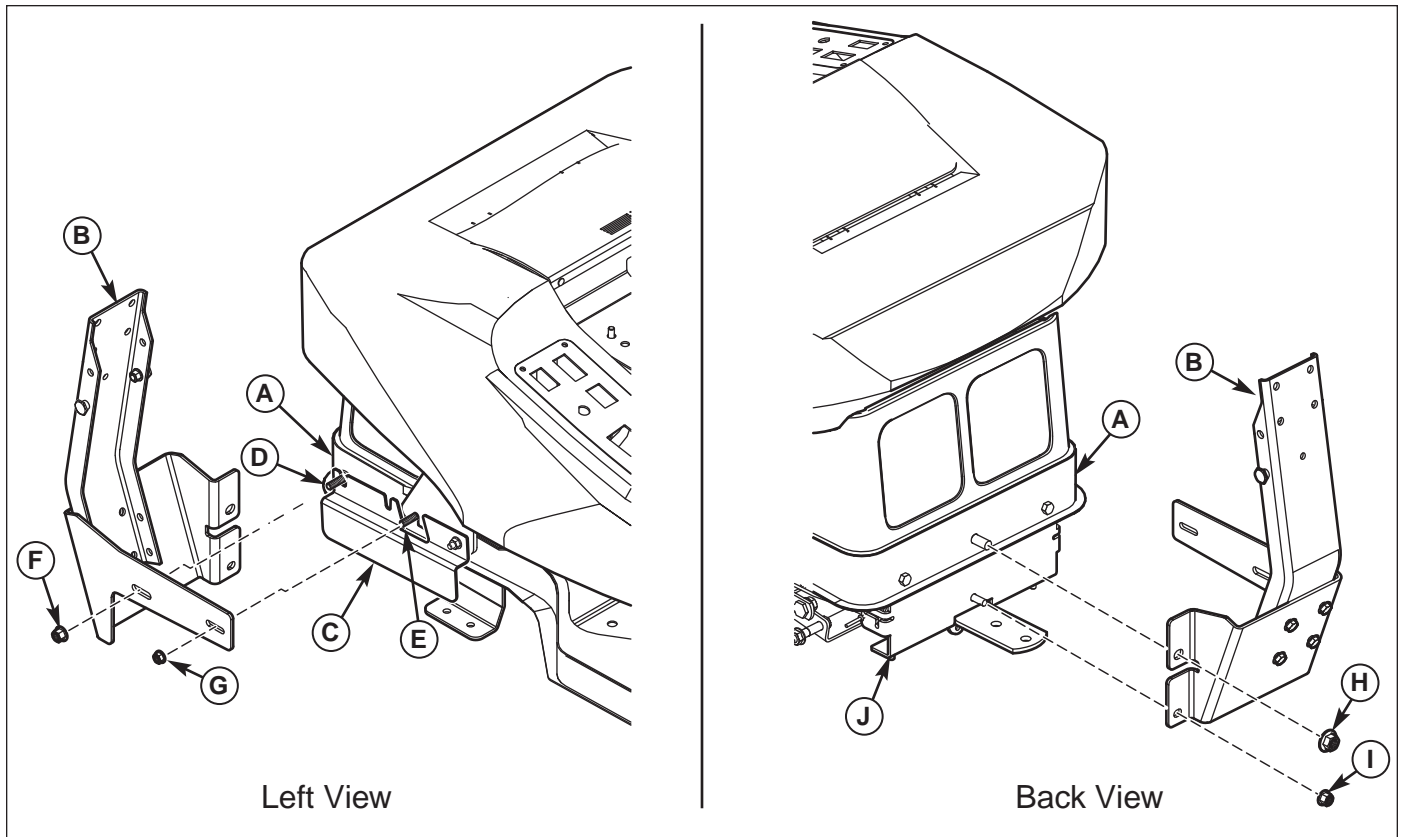

Figure 4. Install Hitch Assembly
1. Remove 5/16-16 nut (G, Figure 4) from seat deck support cap screw (E).
2. Remove 3/8-16 nut (F) from rear debris guard cap screw (D).
3. Remove 1/2-13 nut (H) from rear of frame (A).
4. Remove 3/8-16 nut (I) from rear transmission support (J).
5. Attach hitch assembly (B) to frame (A) sliding rear of hitch flush with frame.
6. Finger tighten 3/8-16 nut (F), 5/16-16 nut (G), 1/2-13 nut (H) and 3/8-16 nut (I).
7. Tighten 3/8-16 nut (F) and 5/16-16 nut (G) first, then 1/2-13 nut (H) and 3/8-16 nut (I).